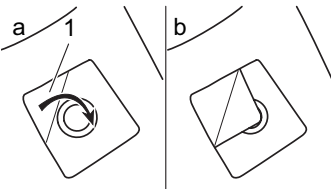

Fig. 20
5. You can close the dust bag using the corner (Fig. 20/1) so that no dust escapes from it during transport.